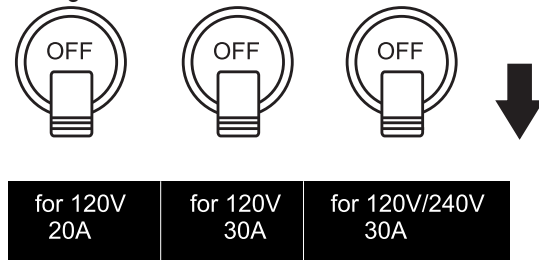

Figure 24. Auxiliary Circuit Breakers (OFF)
4. **NEVER** start the engine with the auxiliary circuit breakers in the **ON** position. Always place circuit breakers (Figure 24) in the **OFF** position before starting the engine.